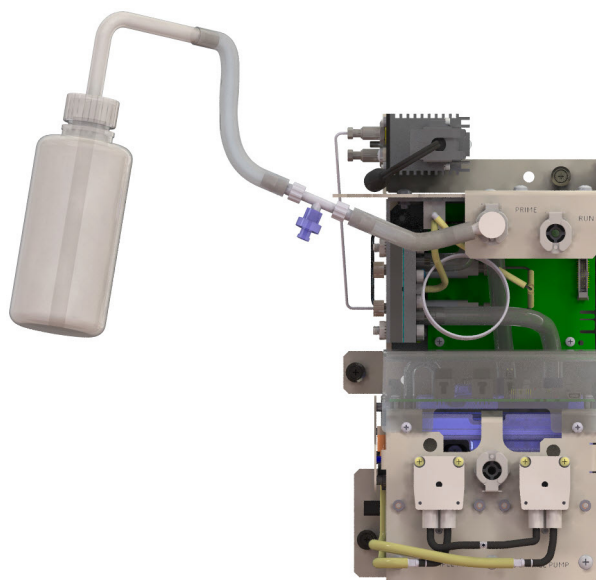

Figure 84: Filling the DI Pump
3. Insert the elbow-fitting end of the filling fixture into the Prime outlet. (Figure 84).